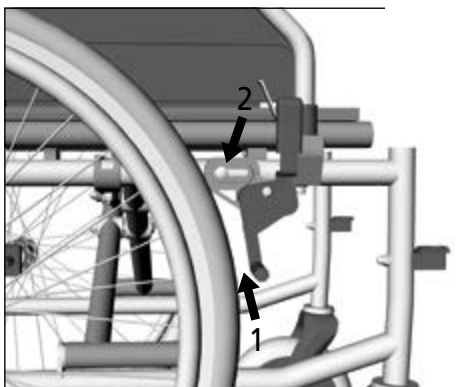

Fig.28
The wheelchair frame has 5 bore holes for seat height adjustment using the rear wheel adapter (2, Fig. 28). Bore holes provided:
The distance between the brake pins and the tyre casing must be 3-5 mm at the narrowest point when the brake mechanism is fully open (1, Fig. 28).
**Tools:** Allen key size 4 and open-end wrench AF 10. Loosen the screw to adjust/correct the distance (2, Fig. 28). Then push the brakes into the correct position. Now retighten the screw and check the function of the brakes. When the brakes are applied, it must not be possible to push the wheelchair.